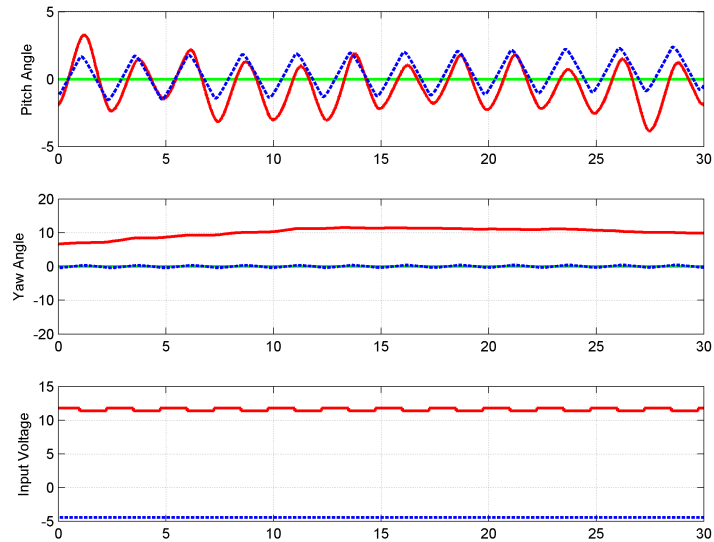

Figure 5.25: Open-loop pitch step
10. In the *Desired Voltage* subsystem, set the frequency of the *Signal Generator: Pitch (V)* block to 0.4 Hertz, the *Amplitude: Pitch (V)* gain block to 0.2, and the *Constant Pitch (V)* to 0.
11. As shown in Figure 5.25, the measured and simulated pitch angles are quite close. The pitch viscous damping term B_p was estimated by tuning its value online as the controller is running. To do this enter a value for B_p in the Matlab command window, for example $B_p = 0.8$. Because the parameter change is made in Matlab (and not directly in the Simulink model), the controller that is running must be updated for the changes of this parameter to